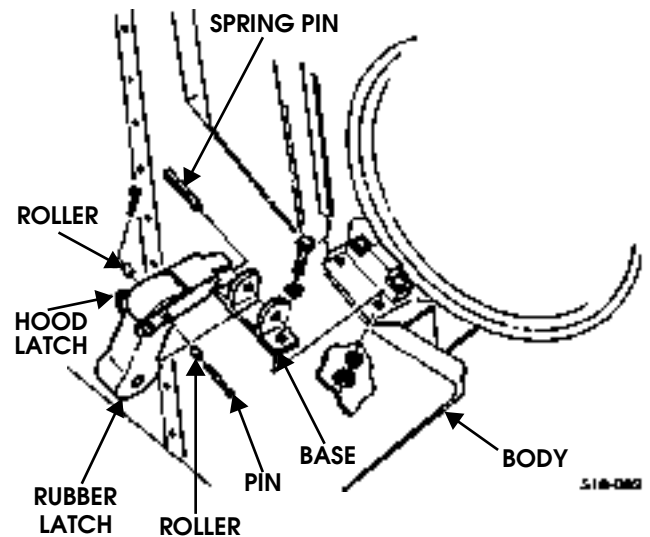

Figure 10-74: Hood Latch Replacement
1. Remove spring pin and rubber latch from base (Figure 10-74).
3. Remove five locknuts, washers, bolts, latch bracket, latch plate, and hood latch stop bracket from hood. Discard locknuts (Figure 10-74).
Remove cotter pin, spring pin, two rollers, and hood latch from rubber latch (Figure 10-74).
Secure hood latch to rubber latch with two rollers, pin, and cotter pin (Figure 10-74).
1. Secure latch plate and hood latch stop bracket to hood with three bolts, washers, and locknuts. Tighten locknuts to 10 lb-ft (14 N•m) (Figure 10-74).
3. Apply sealing compound before securing base to body with two washers, bolts, washers, and locknuts. Tighten bolts to 6 lb-ft (8 N•m) (Figure 10-74).